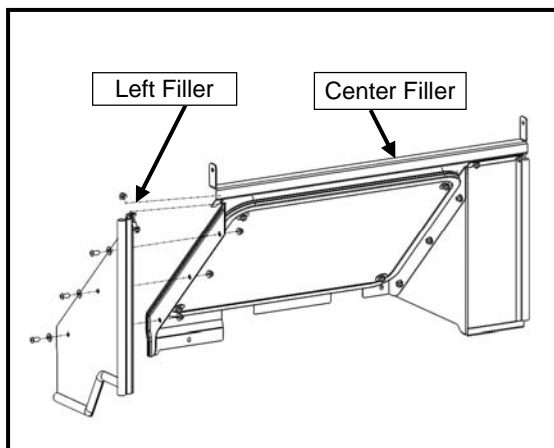

Figure 2.3: Rear Cab Panel Assembly, Left
- 2.3 Attach the left filler to the center filler with (3) 1/4-20 x 5/8" button head bolts, 1/4" steel washers, and 1/4" hex nuts. Fasten upper flange of left filler to center filler with (1) 1/4-20 x 5/8" hex bolt and 1/4" hex nut (see Figure 2.3).